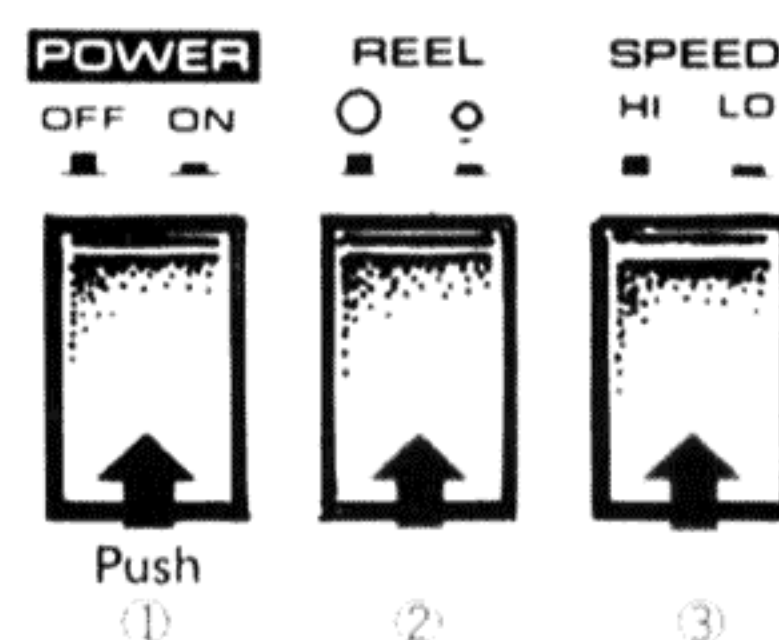

Fig. 19
1. Push the POWER switch to turn the unit on. (Fig. 19). The level meters light up and the capstan begins to rotate. Note, however, that the tape must be taut — with slack tape, the capstan will not rotate.
2. Confirm that the REEL SIZE switch is properly set (Fig. 19). When using 7-inch or smaller reels, push the REEL SIZE switch in. For 10-inch reels, do not push it in. To release this switch when it's locked, push it once again.
3. Set the TAPE SPEED selector to the speed at which the tape was recorded (Fig. 19).